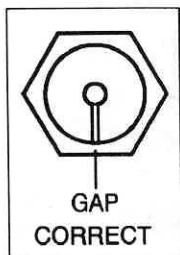

**Fig. 98**
□ **Fig. 98** After the split washer is fully seated, place a liberal amount of oil on the short shock shaft and slowly push it into the shock, and pull it all the way to the bottom.
□ **Figs. 95, 96, & 97** Now take the shock body and the installation tool and push the parts slowly into the shock body all the way down until it bottoms out. Then give it a hard push to seat the split washer. You should be able to hear the washer snap into place. Pull the installation tool out. Look into the shock body to check the installation. **IMPORTANT!** The split ring should look like fig. 97. If it looks like fig. 98, then the washer is not seated in the lock groove and the shock will come apart. **MAKE SURE THE WASHER IS FULLY SEATED IN THE GROOVE.** (Note: To remove the parts, take the installation tool, insert it up through the bottom of the shock, and push the split washer out.)